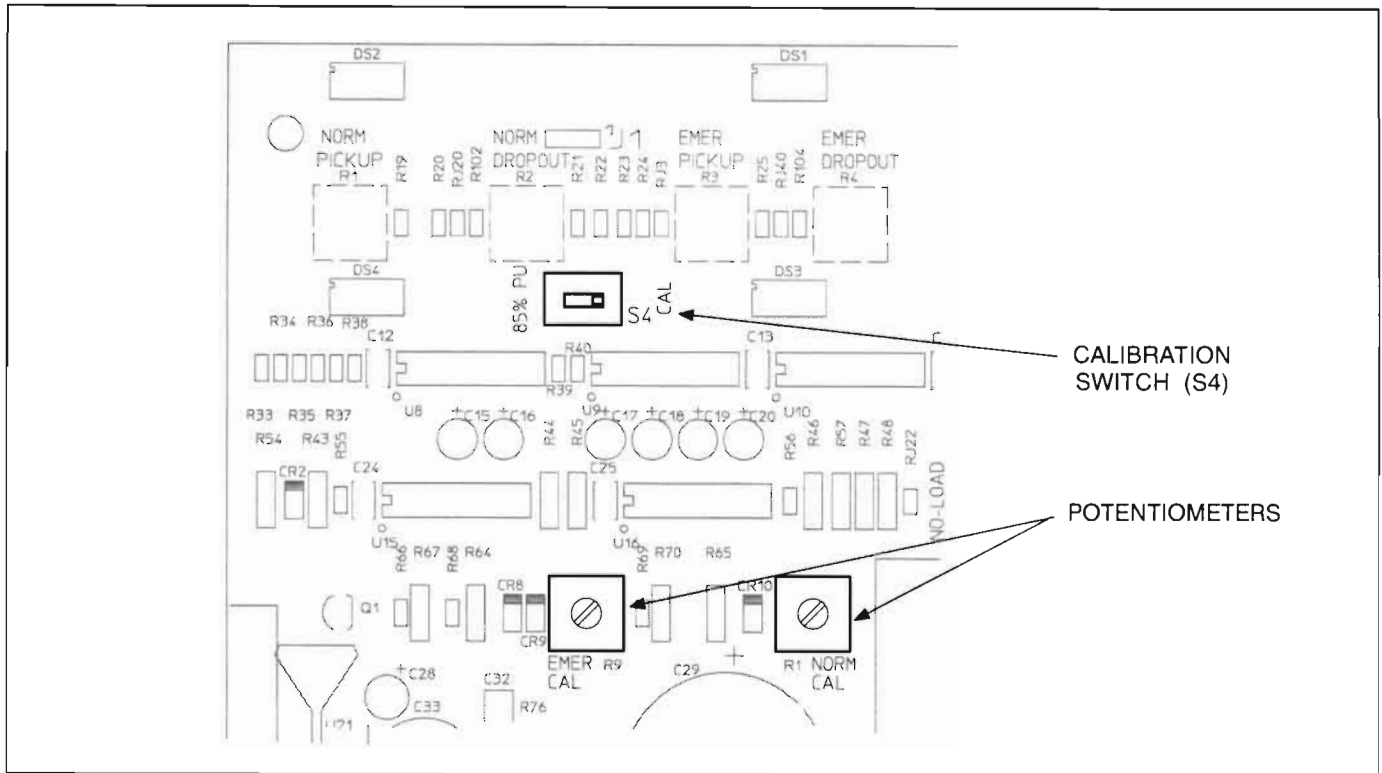

FIGURE 4-3. UNDERVOLTAGE CALIBRATION, PICKUP AND DROPOUT ADJUSTMENT
A separate voltage sensor is used for each power source. The adjustment pot locations are shown in Figure 4-3.
2. Move the calibration switch (Figure 4-3) to the CAL position.
Return the calibration switch (Figure 4-3) to the 85 % position.